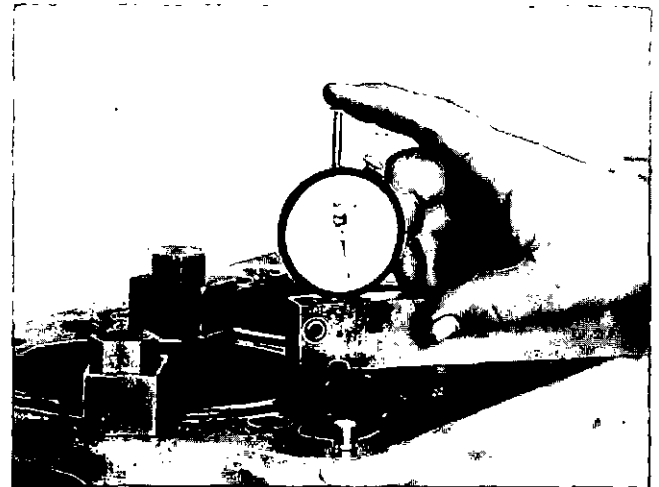

Fig. 1-7. Measure the Cylinder Liner Protrusion.
- b. Use the Part No. 3376220 Gauge Block to measure the liner protrusion, Fig. 1-7. Shims can be placed under the flange of the cylinder liner to make the liner protrusion the required 0.003 to 0.006 inch [0.08 to 0.15 mm].